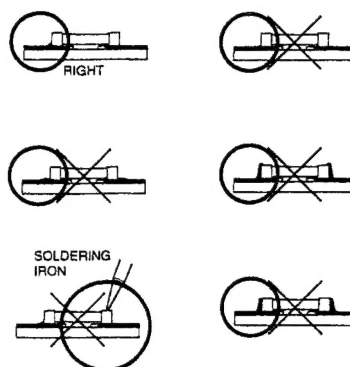

Fig. 3
- The quantity of solder must be proportional to the size of the solder land. If the quantity is too great, the SMD might crack or the solder lands might be torn loose from the printed board (see Fig. 3).